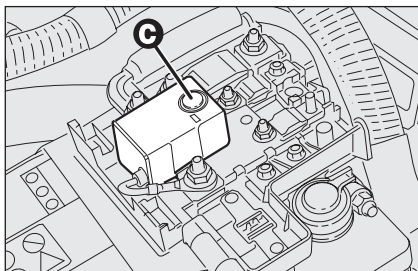

fig. 55
- press button **C-fig. 55** to reset the power supply.